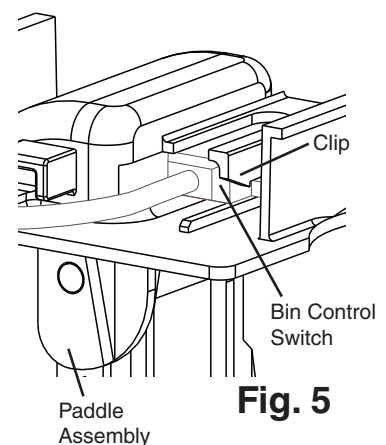

Fig. 5
- 6) Lift up slightly on the clip securing the bin control switch to the paddle assembly and slide the switch out. See Fig. 5.